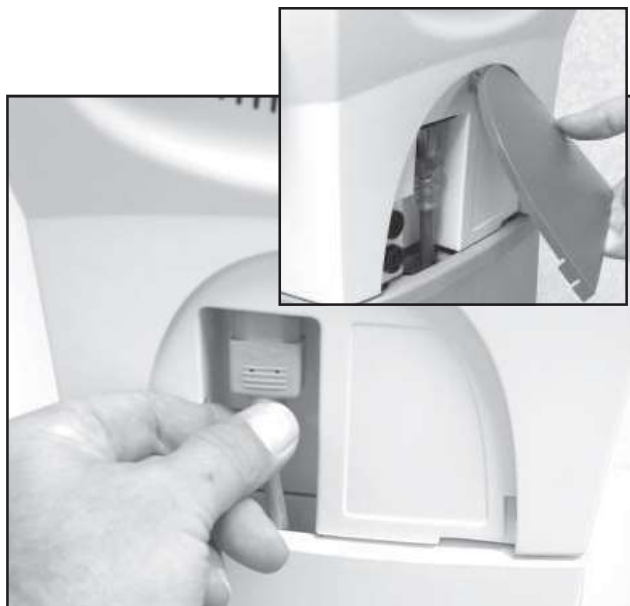

FIGURE 6.9
11. Route Power Cord through Module to Therapy System. **See Figure 6.9.** Re-install Rear Panel. Plug Power Cord into an approved power outlet.